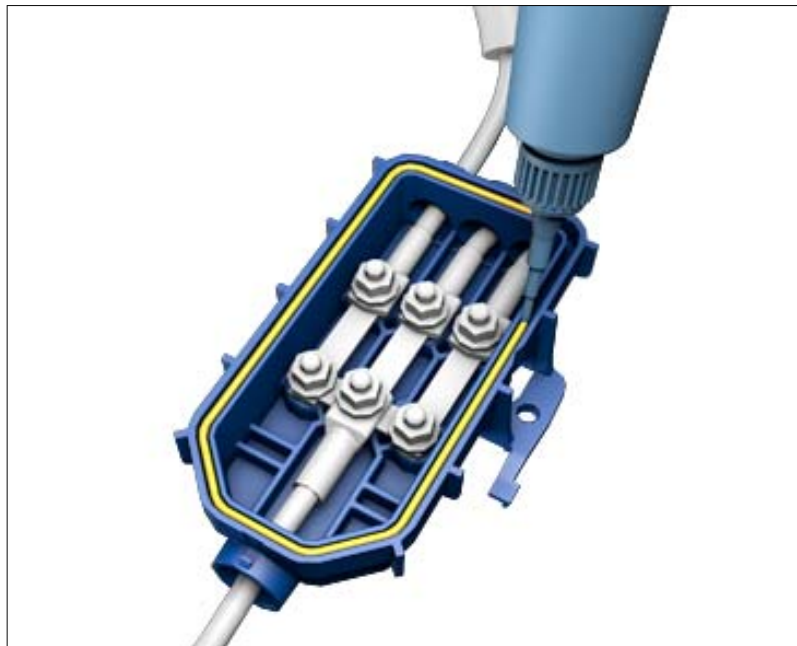

Figure 2
- 10 Using the tube, apply a thin, but consistent bead of Union cement sealing adhesive over the entire sealing face (⇒ *Figure 2*).